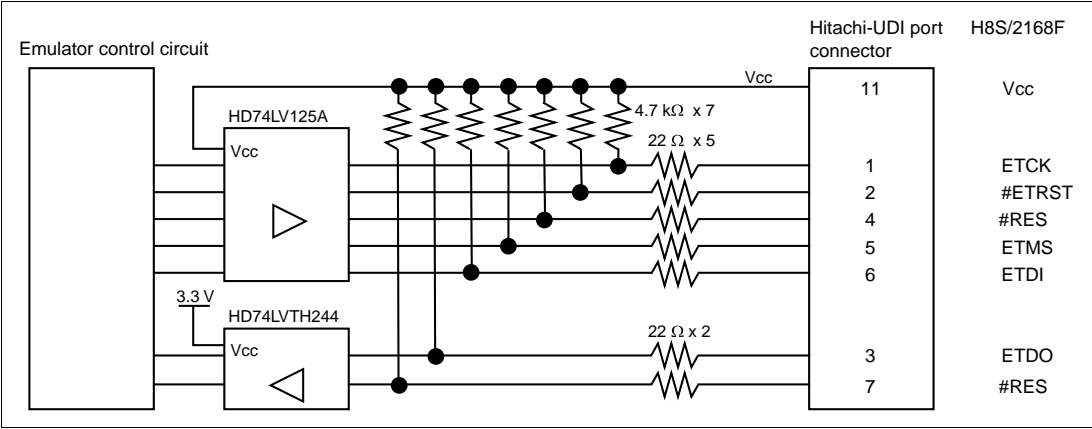

Figure 6.7 Interface Circuit in the Emulator (Reference)
7. Figure 6.7 shows the interface circuit in the emulator. Use this figure as a reference when determining the pull-up resistance value.